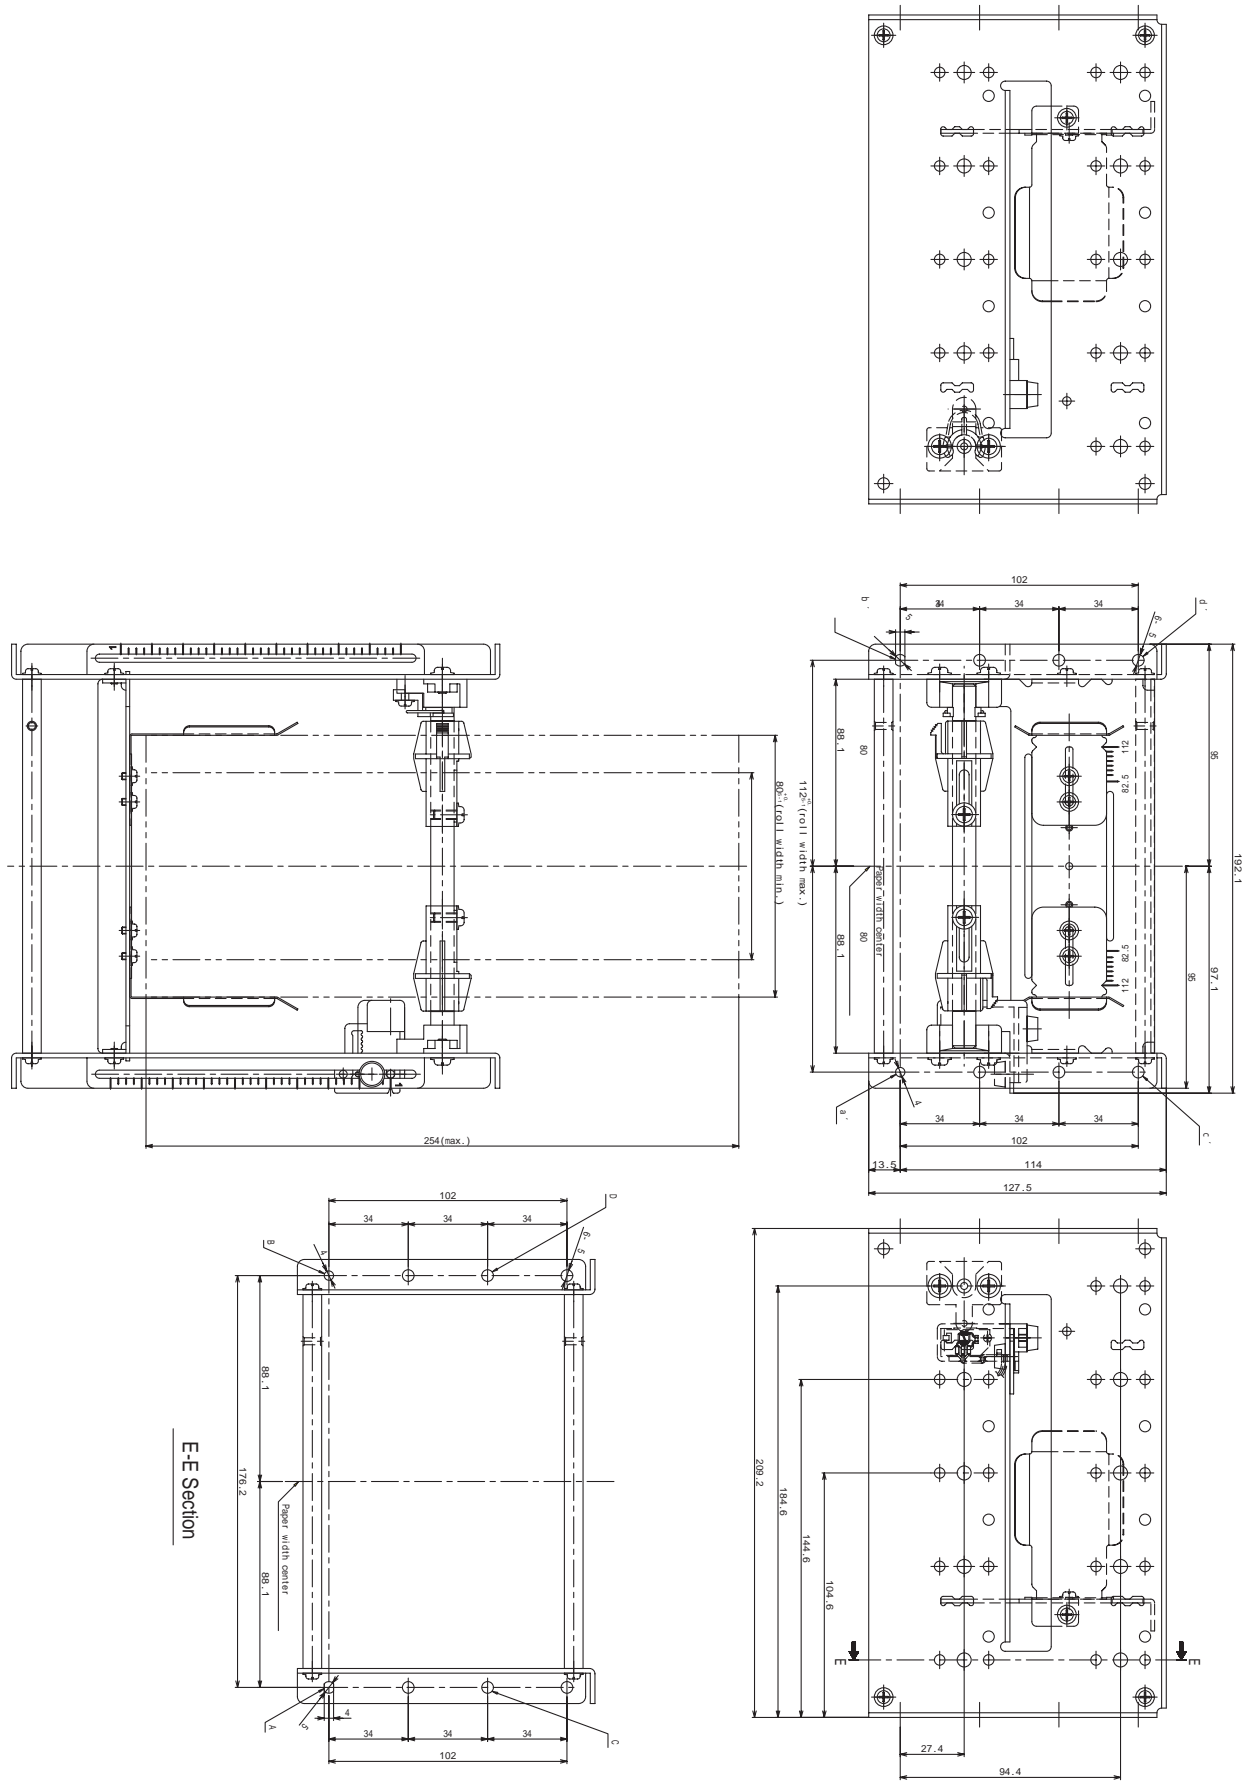

Fig. 7.2 RHU-T900 External Dimensions Diagrams
Large diameter paper roll can be used by using the optional high volume paper roll supply (RHU-T900). Fig. 7.2 on the separate sheet shows an external drawing of use of the high volume paper roll supply (RHU-T900).
3) The external drawing of Fig. 7.2 is an example of the assembly. Be aware that there are some parts that are not included in the RHU-T900.
Use the four holes A, B, C and D shown in the external drawing of Fig. 7.2 on the separate sheet, to fasten the unit.
Use the printer unit holes a, b, c and d (see Fig. 4.1.2 on the separate sheet) and the RHU-T900 unit holes a', b', c' and d' (see Fig. 7.2 on the separate sheet) to fasten both units. When doing so, align a with a', b with b', c with c' and d with d' for assembly.